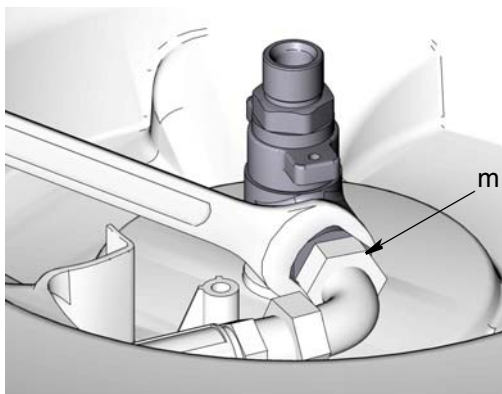

FIG. 18
2. Connect hose fitting (m) to swivel assembly. (FIG. 18).